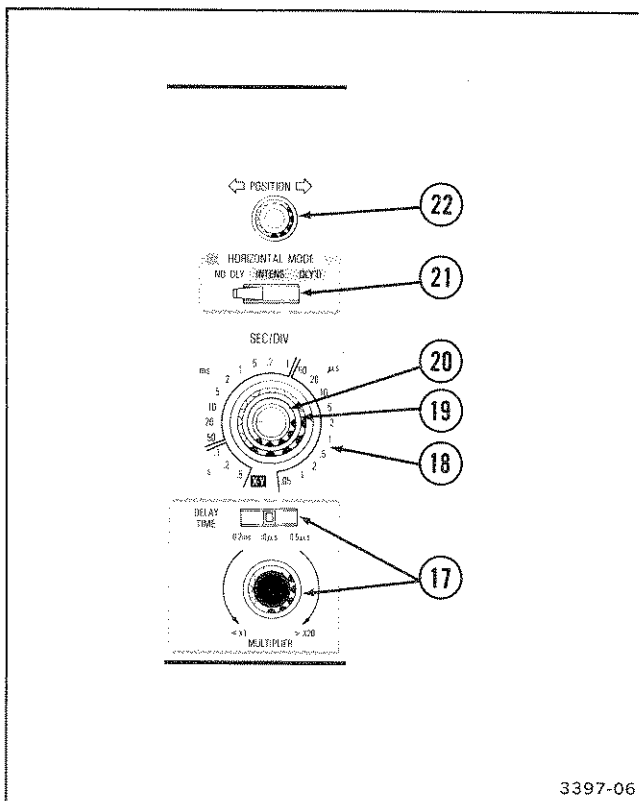

Figure 5. Horizontal controls.
Refer to Figure 5 for location of items 17 through 22.